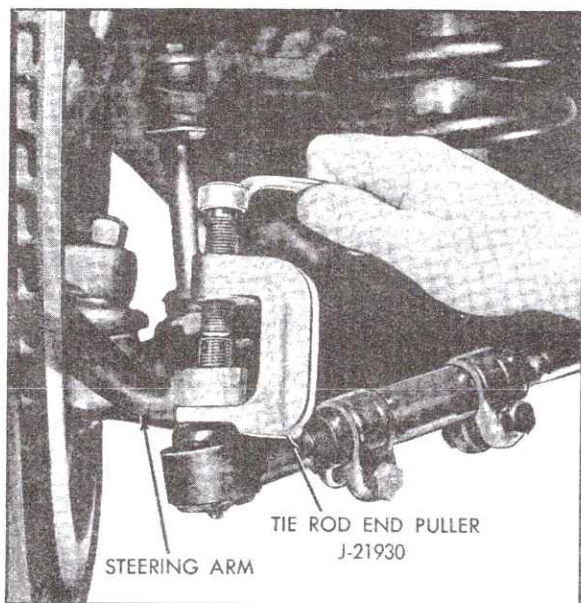

Fig. 3-26 Removing Tie Rod Joint Stud from Steering Arm
6. Remove tie-rod joint stud from steering arm, using Tie-Rod End Puller, J-21930, Fig. 3-26, and remove steering arm.